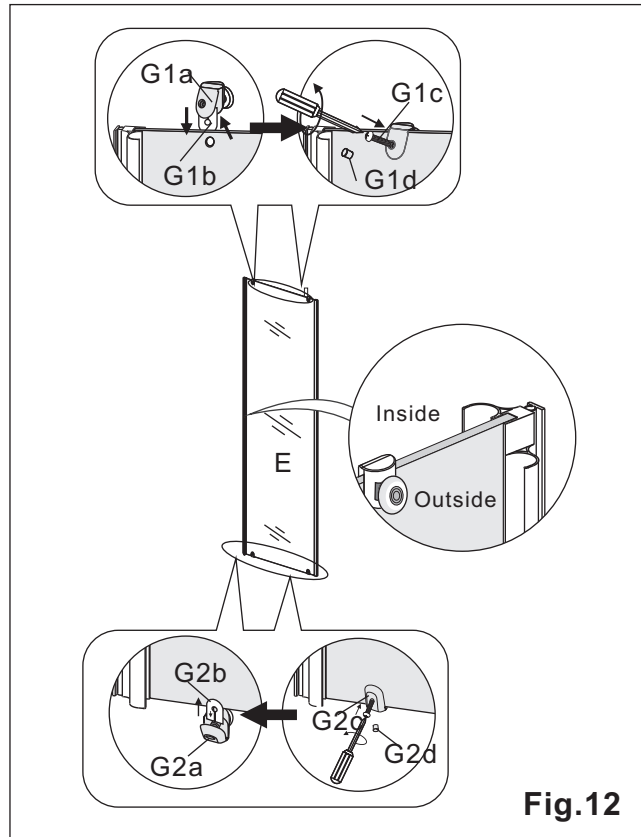

Fig.12
12. Fit the top (G1) and bottom rollers (G2) to the glass door (E) ensuring the correct orientation as illustrated in **Fig.12**.